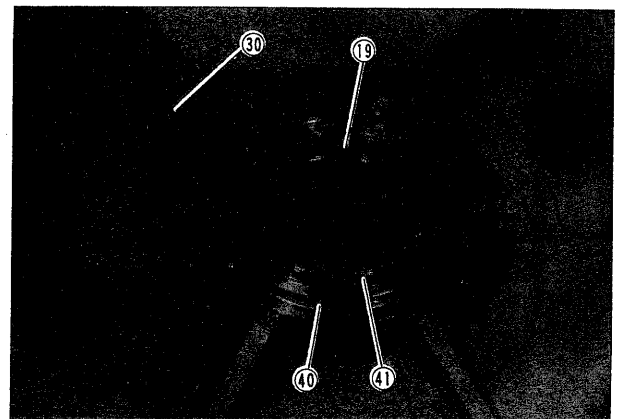

Fig. 81
- (i) SV91T, SV91D & SV91DP . . . . . Take off oil seal (41) , seal ring (40) and outer race of bearing (19) from axle housing (30) (Fig. 81)
- (ii) SV91 . . . . . Take off oil seal (41) , seal ring (40) and outer race of bearing (19) from disc (54) . (Fig. 73, Fig. 81)
If bearings (19) are not faulty, outer races should not be removed. (Fig. 81)